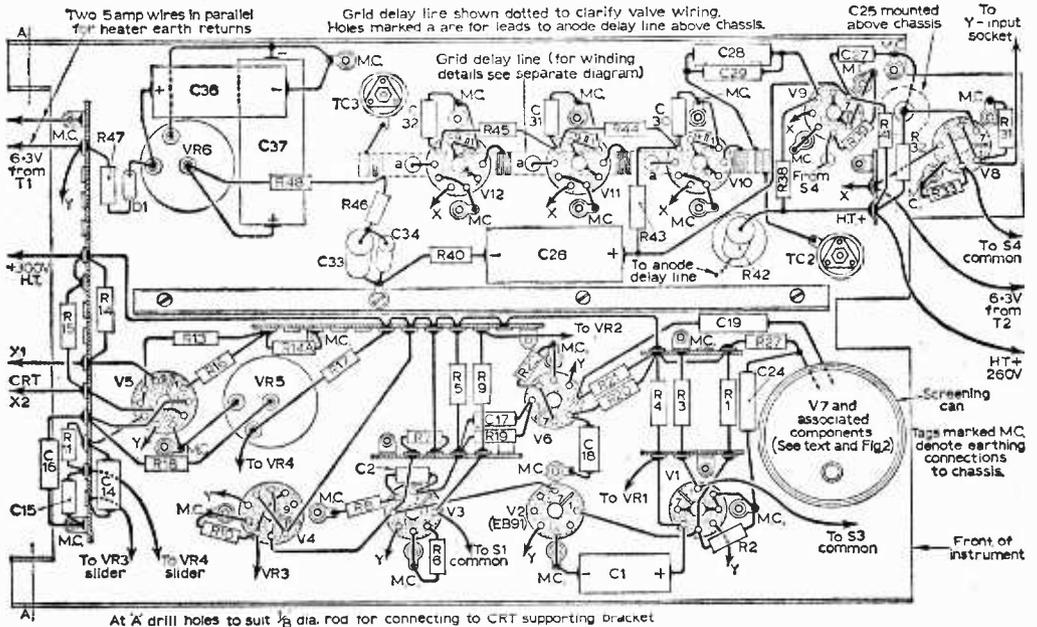

Fig. 19—The top chassis component layout and wiring diagram (for further details of the delay lines see Fig. 9) with overall dimensions also provided.
**D**IMENSIONAL details of the upper chassis are included in the component layout diagram, Fig. 19.